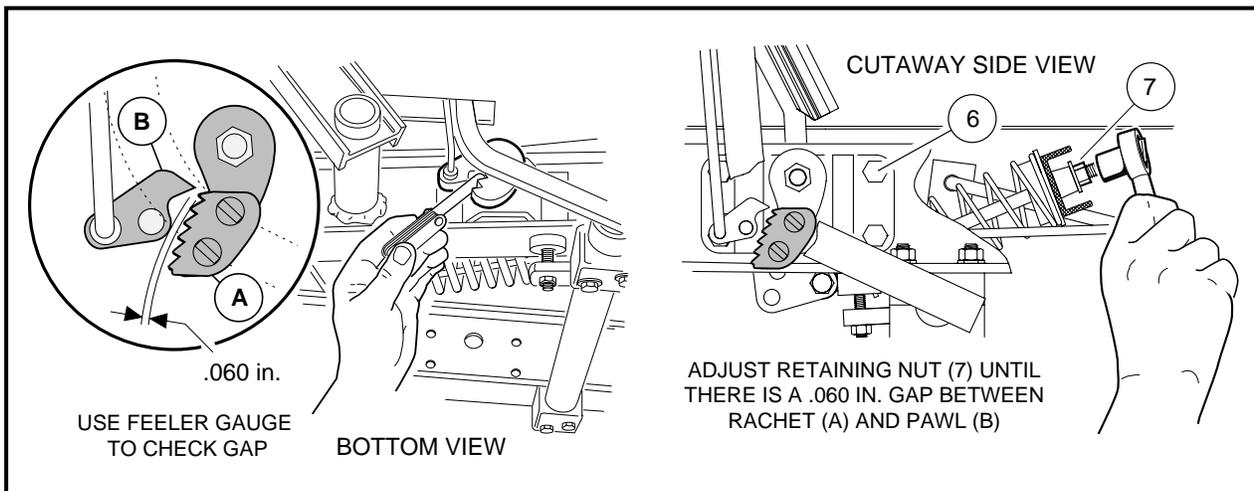

Figure 5-4 Adjust Park Brake Ratchet/Pawl Gap
- 2.1. Adjust the retaining nut (7) on the spring support rod until there is a .060 in. gap \pm .030 between the pawl and the tips of the ratchet teeth. Use a feeler gauge to verify the gap (**Figure 5-4, Page 5-4**). The gap should be consistent through range of pawl movement. If the gap is not consistent, loosen the four bolts (6) (**Figure 5-4, Page 5-4**) securing the accelerator pivot rod supports and adjust the supports. If the gap becomes smaller as the park brake pedal is depressed, move the pivot rod supports slightly rearward until the gap is consistent. If the gap becomes larger as the park brake pedal is depressed, move the pivot rod supports slightly forward until the gap is consistent. **Read following NOTE before proceeding.**